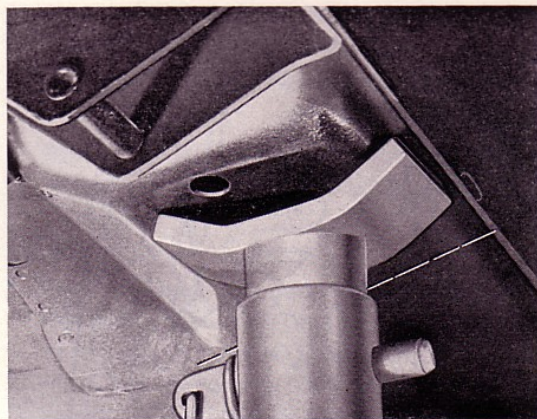

Fig. 12 Location of the block stand, 140-series
10. Jack up the vehicle with four blocks (for the 140-series under the front jack attachment and in front of the rear jack attachment according to Fig. 12).